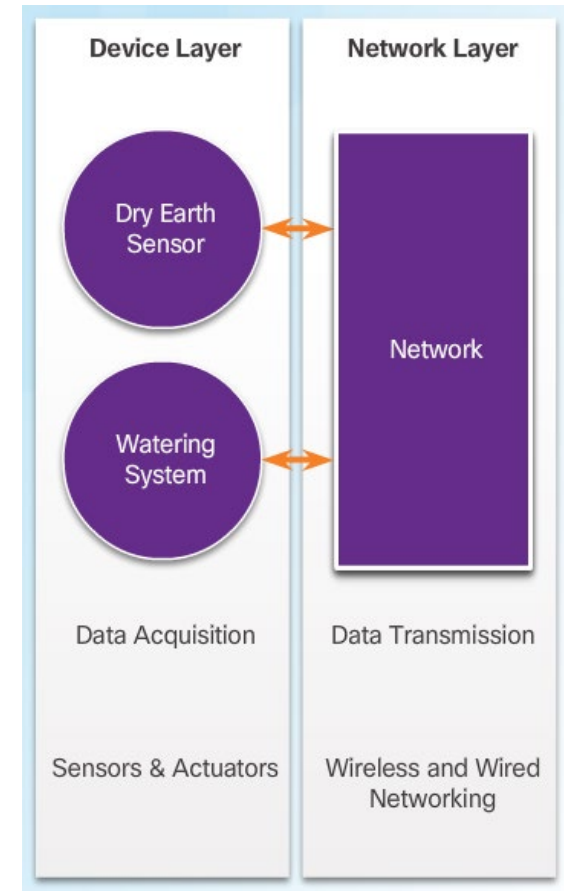

Figure 1
- **Device-to-Device** (Figure 1)